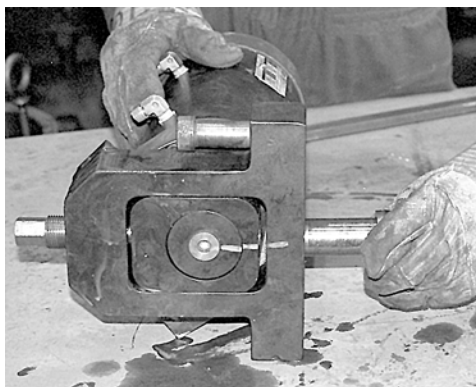

Figure 5-18. Insertion of Upper Seal Sub into Idler Bracket
5. Insert the upper seal sub into the idler bracket. Use a rubber mallet to install the seal sub (see Figure 5-18).